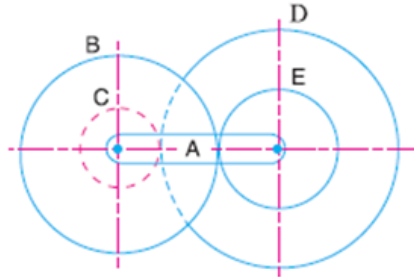

Figure 2
- (b) In a reverted epicyclic gear train as shown in Figure 2, the arm A carries two gears B and C and a compound gear D - E. The gear B meshes with gear E and the gear C meshes with gear D. The number of teeth on gears B, C and D are 75, 30 and 90 respectively. Find the speed and direction of gear C when gear B is fixed and the arm A makes 100rpm clockwise.